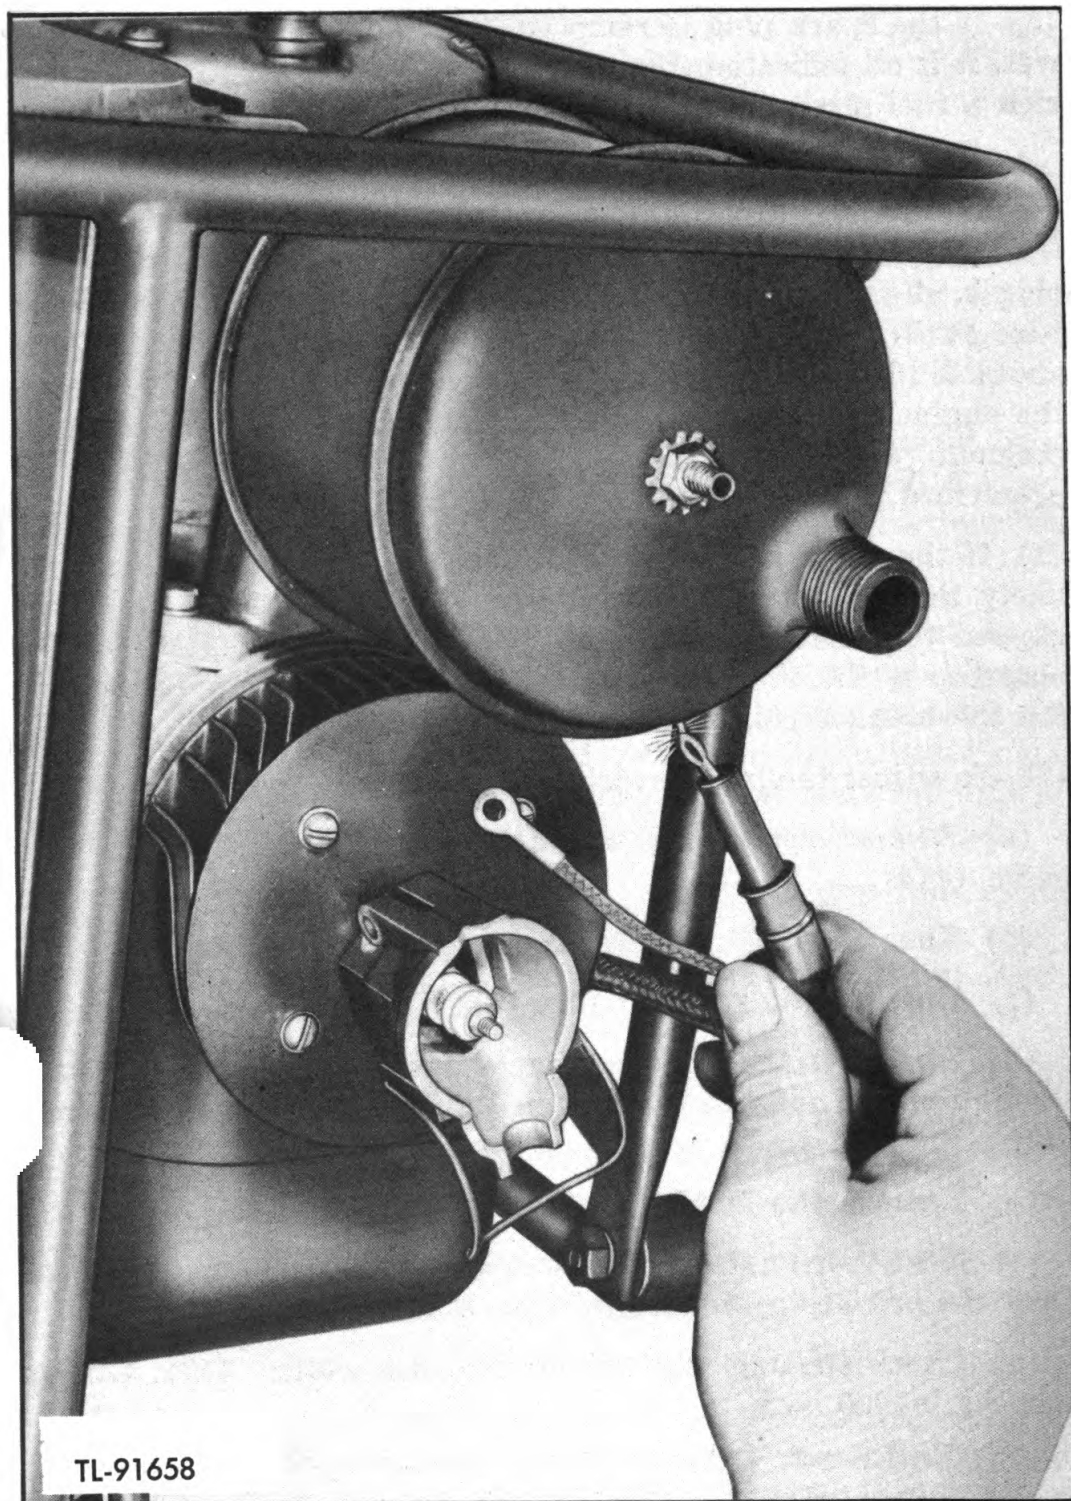

Fig. 9—Test for Spark Output
(3) If the spark plug is removed and the points are found to be wet, it is an indication that the engine is being operated with too rich a fuel mixture, or the ratio of gasoline to oil is not correct.
b. Magneto. (1) If there is an indication that the magneto is causing trouble, test the magneto before attempting to repair it. If the engine refuses to start after it is determined that the spark plug is all right, check the magneto by removing the high tension wire (412) from the spark plug and holding the end of the wire about $\frac{3}{16}$ inch away from a point on the engine (fig. 9). When the engine is cranked in the usual manner, a properly performing magneto will have a spark output strong enough to jump the prescribed gap.
(2) If the spark produced will not meet the above test, it is very likely that the breaker points require adjustment and should be gapped to a .020 inch opening. The only adjustable part on the magneto is the breaker plate (476), which provides adjustment for the breaker points.
(3) To adjust the breaker points, proceed as follows: